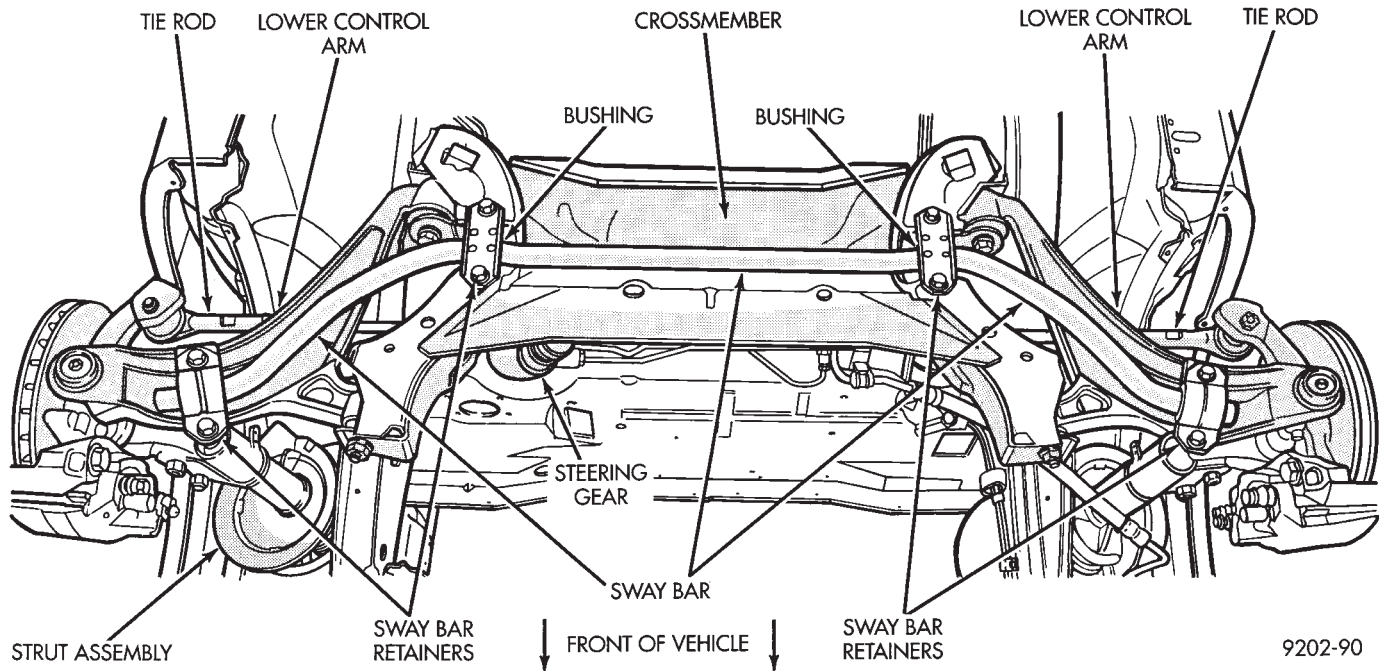

Fig. 1 Front Sway Bar
(1) Raise and support the vehicle. See Hoisting in Lubrication and Maintenance, Group 0.
(2) Remove the nuts, bolts, and sway bar retainers at the front lower control arms (Fig. 1).
(3) Remove the bolts at sway bar crossmember clamps, and remove clamps and sway bar from vehicle (Fig. 1).